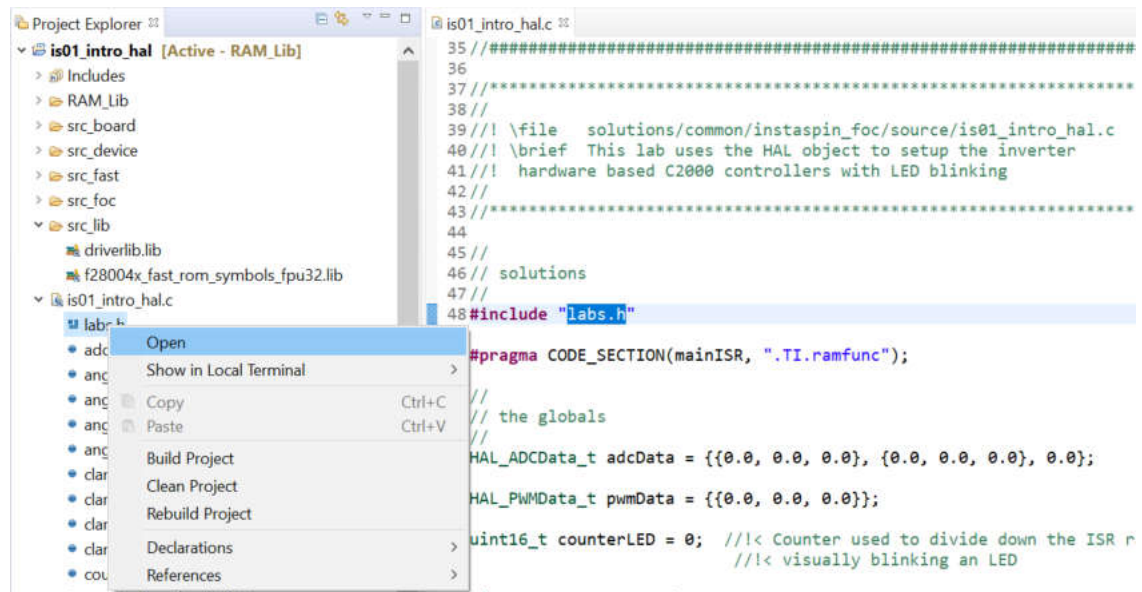

Figure 7: Opening a header file declaration from the Project Explorer tab
2. Right-mouse clicks on “labs.h;” selecting “Open” shows “is01_intro_hal.c” with the reference to “labs.h” highlighted, as shown in **Figure 7**.